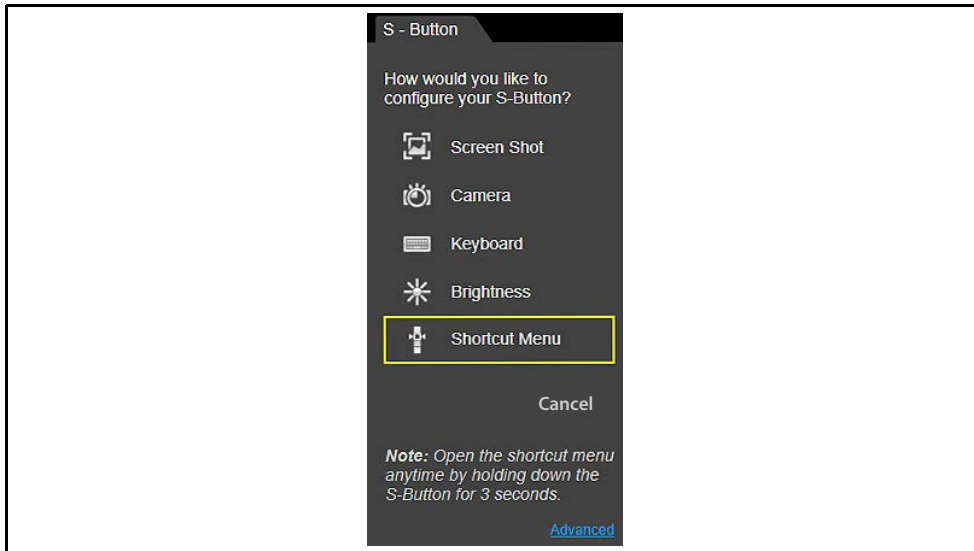

Figure 1-3 Shortcut (S) button configuration menu
- To configure the Shortcut (S) button:**
1. Press and release the **Shortcut (S)** button.
3. Choose the function you would like the **Shortcut (S)** button to perform when pressed (*Figure 1-3*).